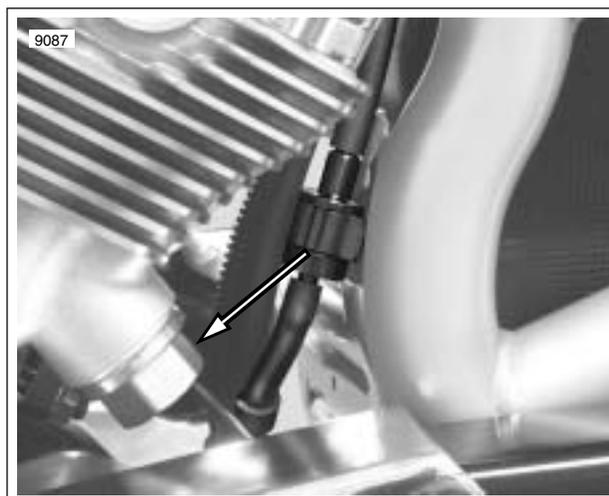

Figure 1-74. Secondary Cam Chain Tensioner
3. See Figure 1-74. Remove secondary cam chain tensioner.